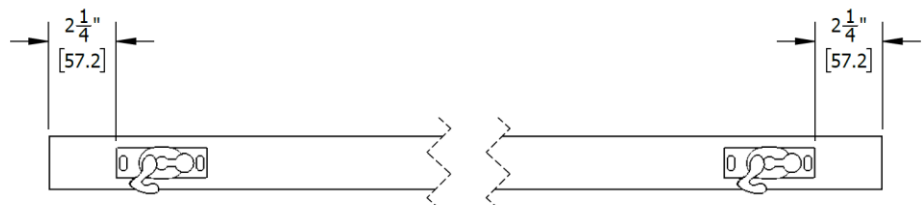

Figure 4
- Position both Hanger Plates center of the top door edge thickness. One 2-1/4" from the left door edge and the other 2-1/4" from the right door edge. Make sure the slots on both Hanger Plates are facing the pocket side door edge. See Figure 4